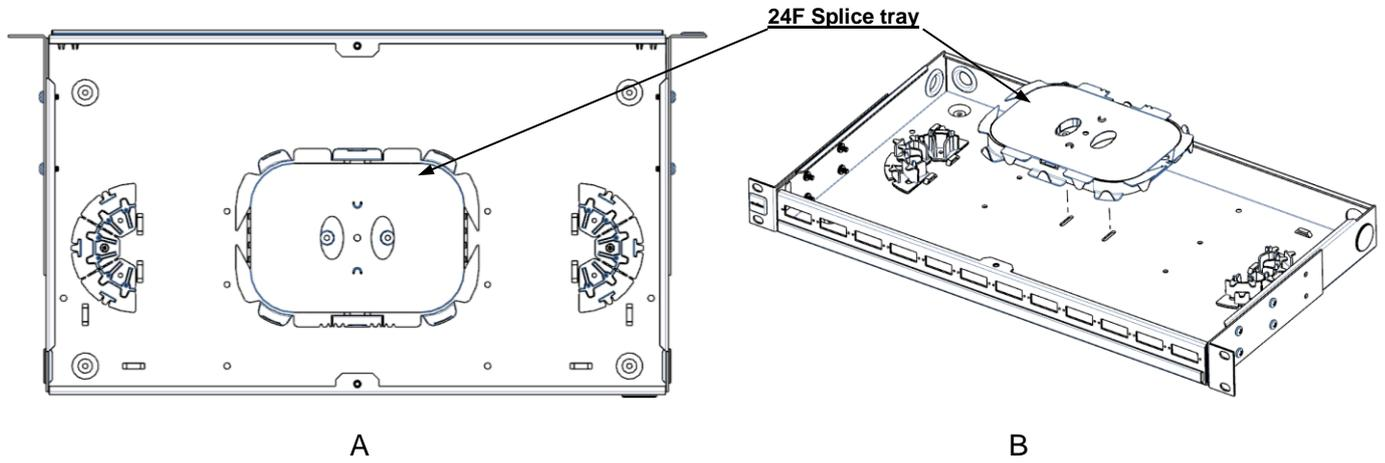

Fig.9
5.0 24F Splice tray installation (Fig. 9):